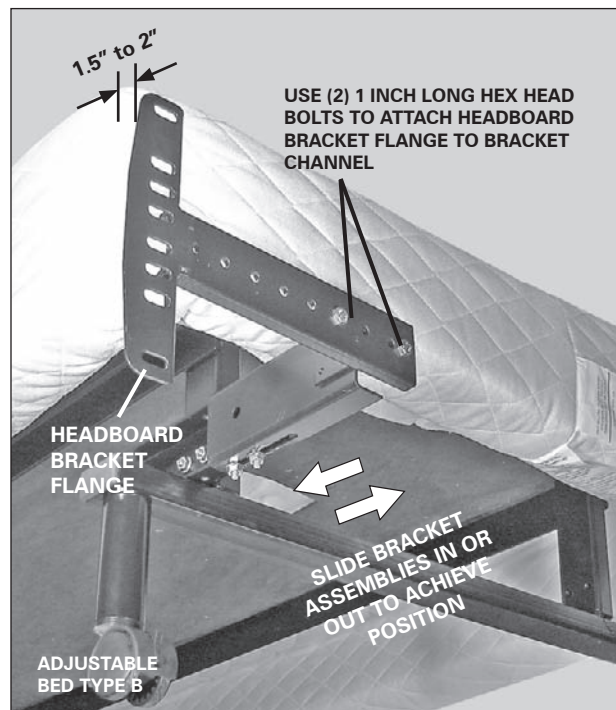

FIGURE 24: Bed base Type B headboard bracket flange attachment.
h. When installing a headboard, footboard, or four-piece surround (case good), allow for 1.5 inches (38.1mm) to 2 inches (50.8mm) of clearance at the head and foot of the bed and a minimum of $\frac{1}{2}$ inch to $\frac{3}{4}$ inch on the sides (**FIGURE 24**).